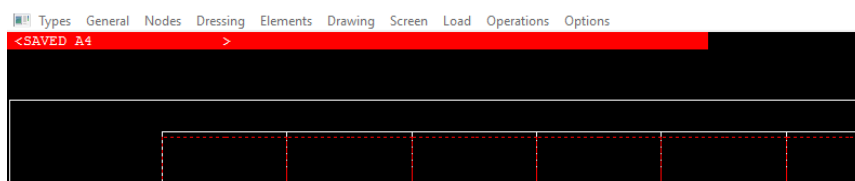

Figure 4.52
- After the drawing of the mesh in DESFIN, select the **Operations** tab and then **Save Graphic File**. A message appears indicating that the figure has been saved (Figure 4.52).